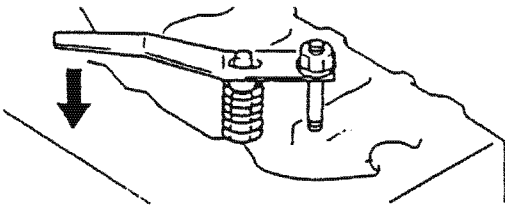
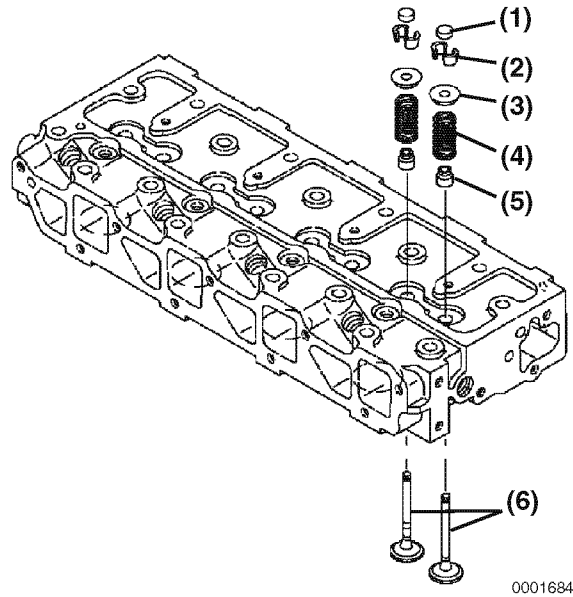

Figure 6-10
Figure 6-11
2. Using the valve spring compressor tool, compress one of the valve springs (Figure 6-10).
3. Remove the valve keepers (Figure 6-11, (2)) and valve cap (Figure 6-10, (1)) from the end of the valve.
5. Remove the spring retainer (Figure 6-11, (3)), valve spring (Figure 6-11, (4)) and valve stem seal (Figure 6-11, (5)).
7. Turn the cylinder head so the exhaust port side faces down. Remove the intake and exhaust valves (Figure 6-11, (6)) from the cylinder head.